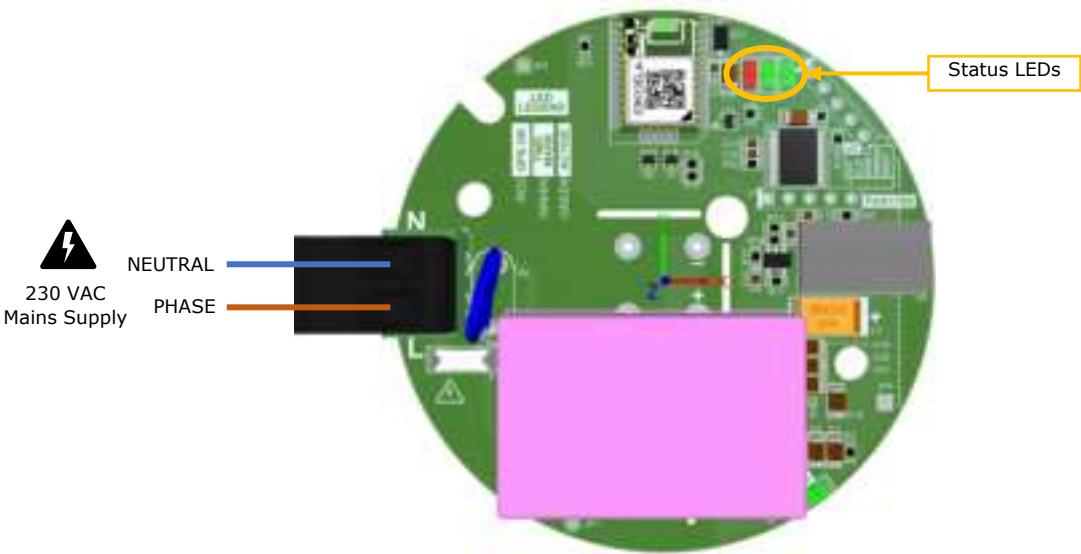

Figure 1: CBU-SKYTIME-IP Power Supply wiring
- Insert the 230 Vac mains voltage cable(s) into the cable gland(s) and wire the Neutral (N) and Live (L) wires to the "N" and "L" terminals of the internal AC IN connector (refer to Figure 1). To tight the connector wires, use a 3 mm flathead or Phillips screwdriver.